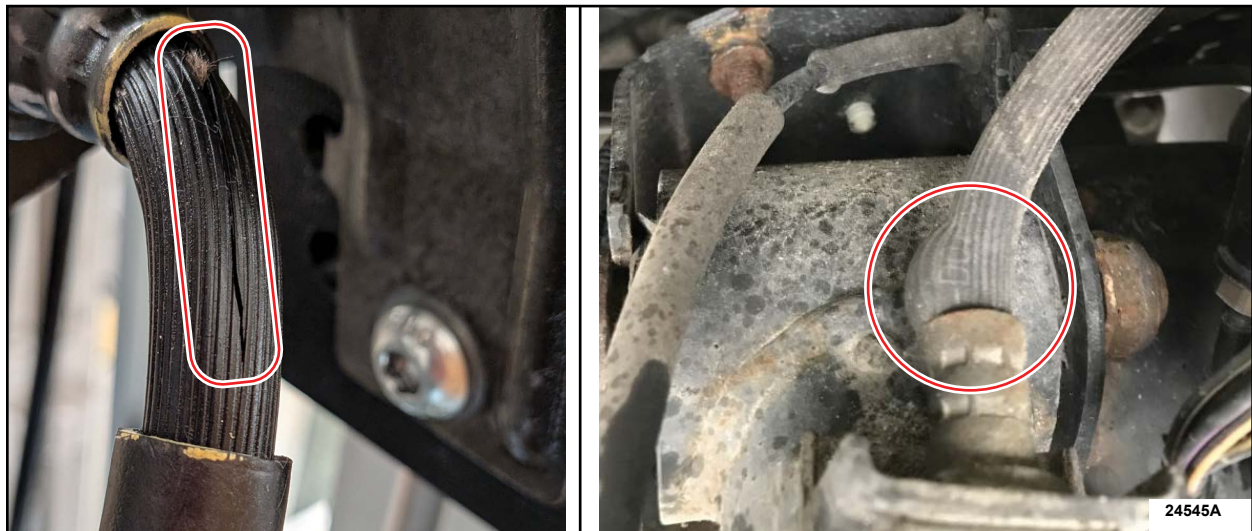

FIGURE 1
2. Inspect both the left-hand (LH) and right-hand (RH) side rear brake hoses for signs of leaks, bubbling, cuts, splits, and/or bulges. See Figure 1.